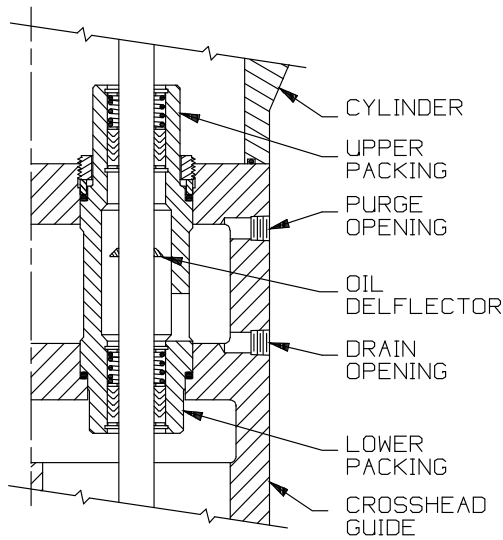

Figure 9 - Typical Seal Assembly
3. Ensure that the 6th digit of the Compressor ID number is a "1", indicating a TYPE 1 packing arrangement. See "Nameplate Data" in this manual. Refer to Figures 9 and 10 for proper TYPE 1 component location and orientation.